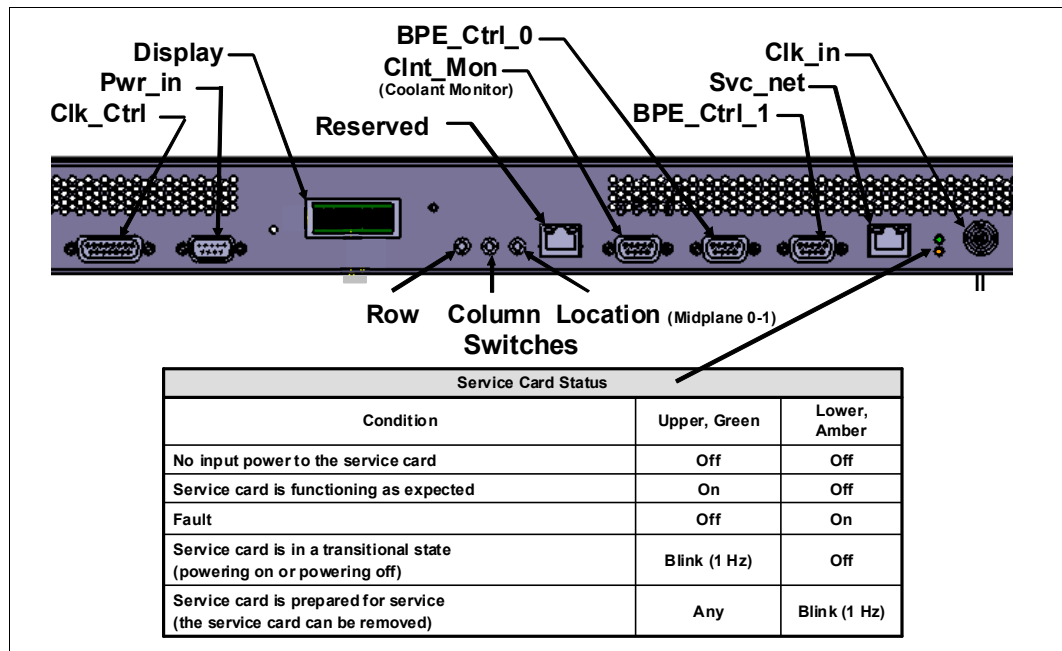

Figure 4-25 Service card LED indicators
- Locate the position of the service card and verify the status of the LEDs. The green LED must be solid, blinking, or off. The amber LED must be blinking. See Figure 4-25 for information about service card LED indicators.